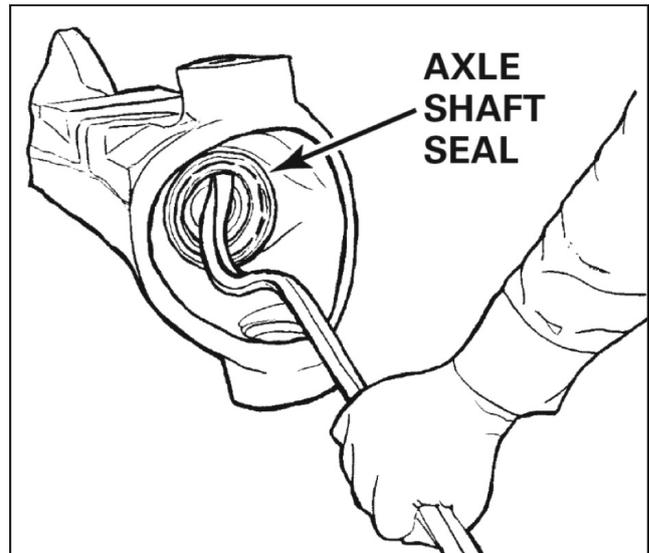

Fig. 4.8
16. The axle shaft seals will come apart. The seal journals will be attached to the axle shaft and the seal casing will remain in the axle seal retainer and spindle. The seal casing can be removed by prying on the inner part of the casing. Be careful not to damage the washer surface.- Fig. 4.8